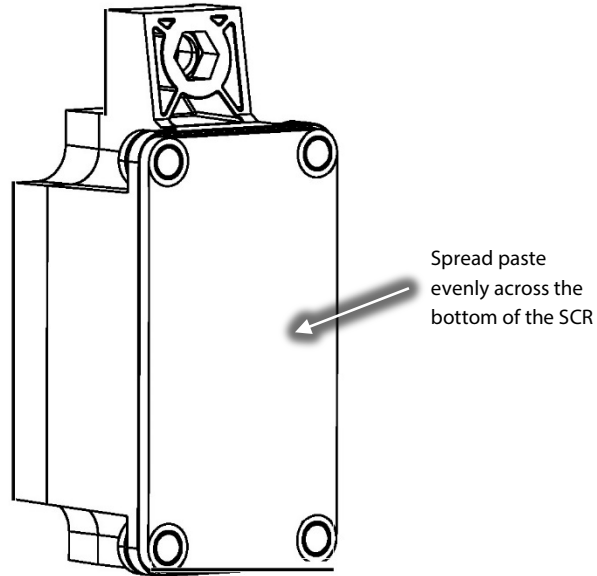

Figure 15 – SCR Thermal Paste Application
4. Apply the heat sink paste to each new SCR in the same manner as illustrated for the SCR Cooling Manifold. Refer to Figure 15 (SCR Thermal Paste Application).